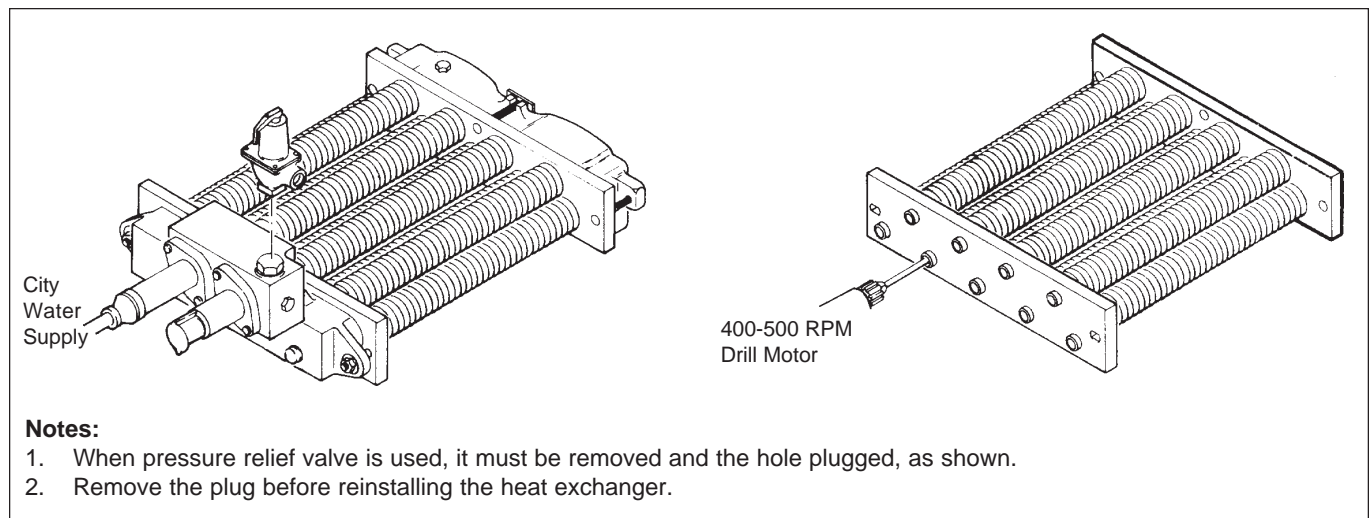

Figure 32. Heat exchanger tube cleaning.
4. Ream the insides of the tubes (see Figure 32).
8. Pressure test the heat exchanger for leaks with city water supply before re-installing (see Figure 32).